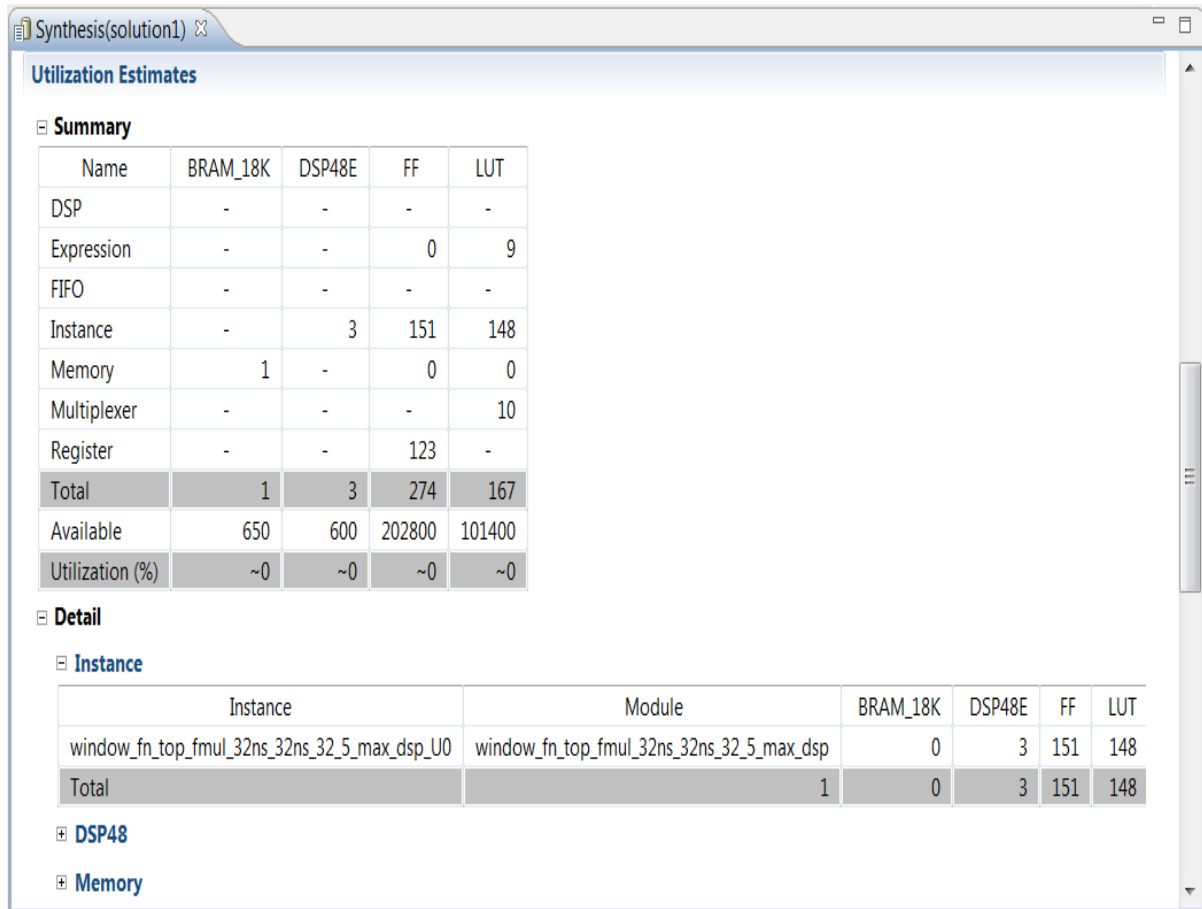

Figure 5-7: Area Details for Floating Point Design
2. Scroll down the report and expand the Instances in the Details section of the Utilization Estimates (Figure 5-7).